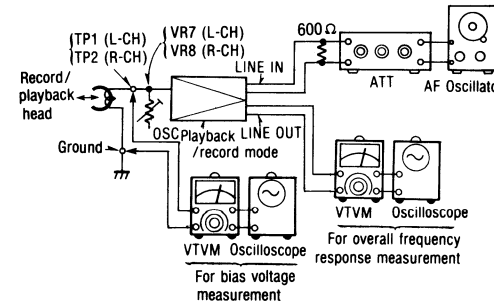

Fig. 11
- Make connections as shown in fig. 11.